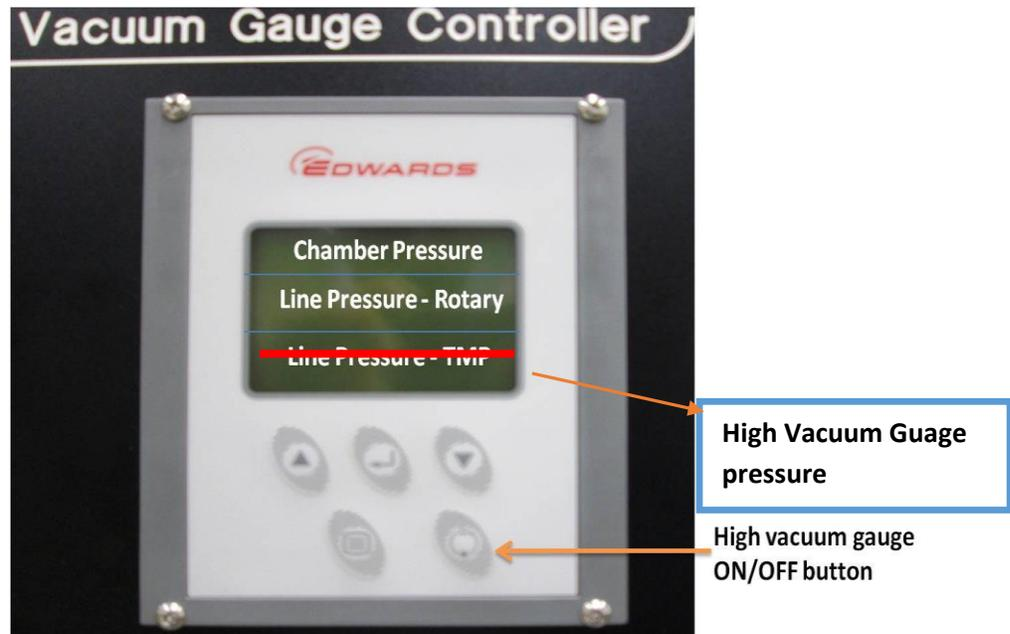

Fig. 4
8. After achieving 33600 RPM, Check the chamber pressure from vacuum gauge controller. If it is not  $5 \times 10^{-2}$  Torr, then close FV from 10 and Open RV again from (9). Then wait to achieve  $5 \times 10^{-2}$  Torr. Then close RV and then open FV and GV. However, if it is  $5 \times 10^{-2}$  Torr, then open GV (Gate valve) from (12).
9. Open CDG (Manometer Gauge) from (13).
**Note:** Check that throttle valve controller (14) is also Open at this stage now.
13. After achieving  $5 \times 10^{-6}$  Torr, Turn off the high vacuum gauge from vacuum gauge controller. (Fig. 4)
14. Adjust the temperature of substrate on temperature controller up to 500 °C (according to requirement) from (15).